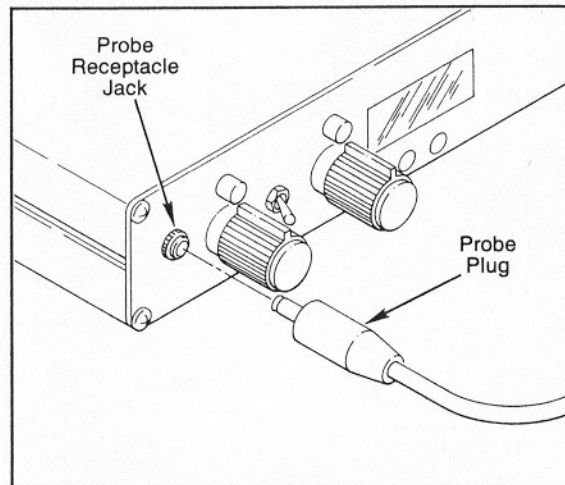

FIGURE 8. ATTACHING PROBE PLUG
11. Insert the Probe Plug into the Probe Jack Receptacle, refer to Figure 8.